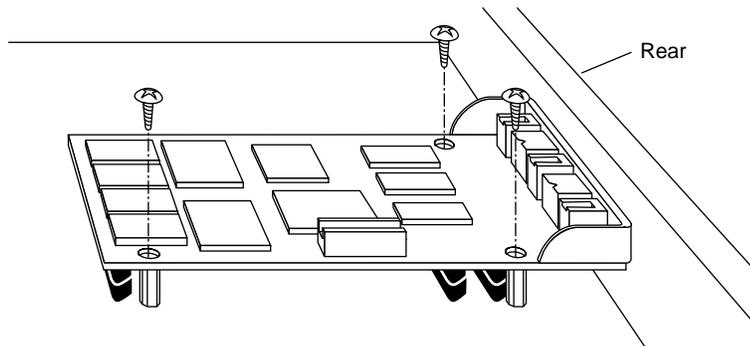

Figure 1-7 Removing the Screws From the GIO Option Board
4. Using a Phillips screwdriver, remove the three screws that connect the GIO option board to the graphics board, as shown in Figure 1-7.